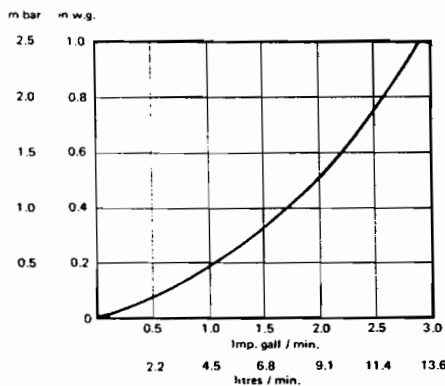

Fig. 2 PRESSURE LOSS ACROSS BOILER
6. The circulating pump should be selected with reference to fig. 2. The resistance through the boiler heat exchanger will not exceed 2.0 mbar (0.8in. w.g.) at a flow rate of 2.5 gall/min.